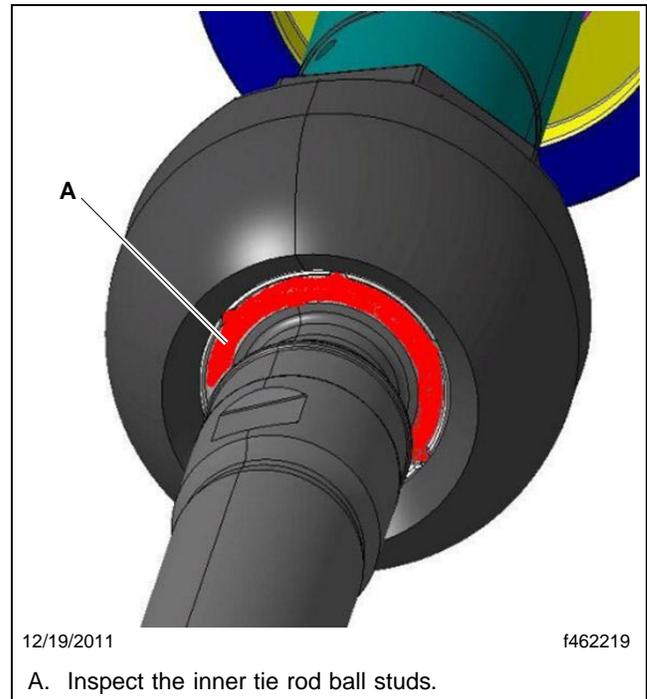

Fig. 22, Inner Tie Rod Ball Stud
- Clean a dime-size area on both of the inner tie rod ball studs (see **Fig. 22**). See **Fig. 23** and **Fig. 24** for examples of acceptable and unacceptable levels of corrosion.